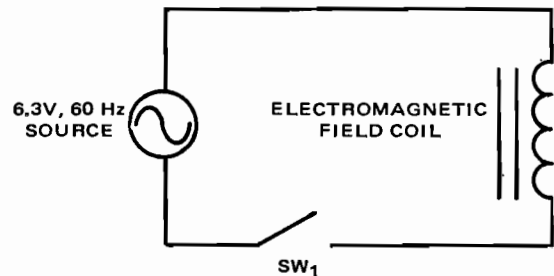

Fig. 12-5-1
3. Connect field coil or stator winding of this motor to ac source as indicated on diagram in Fig. 12-5-1.